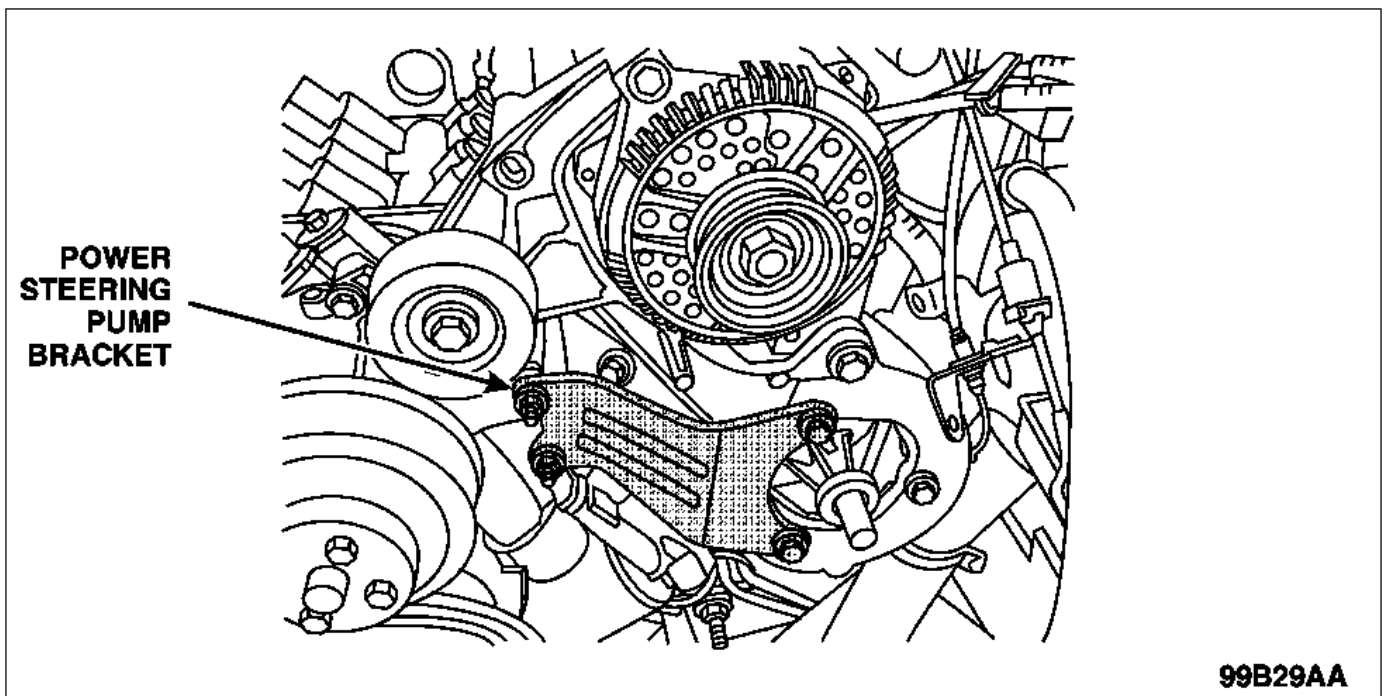

FIGURE 27
38. Remove the power steering pump bracket. See Figure 27.